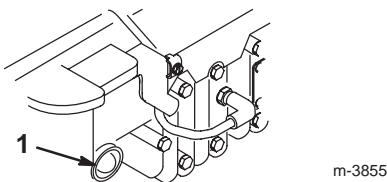

Figure 11
2. Push in the primer 3 times, waiting 1 second between each push (Fig. 11).